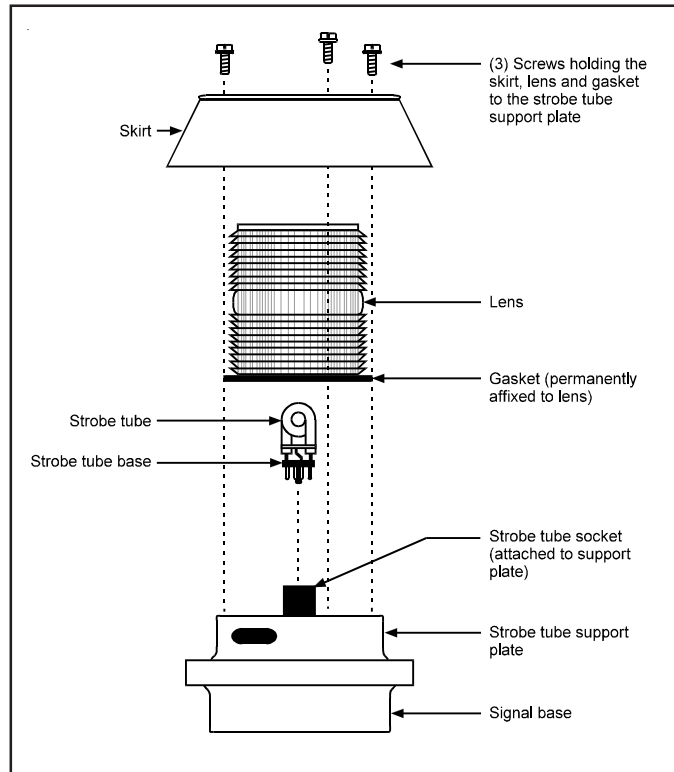

Figure 6. Replacing the Strobe Tube on the 95 Series Signals
- c. **95 Series:** Refer to Figure 6. Remove the three screws holding the skirt and lens to the strobe tube support plate. Lift the skirt up over the lens and off the signal. Being careful not to tear the gasket which is permanently affixed to the lens, lift the lens straight up and off the plate. Proceed to step 2.